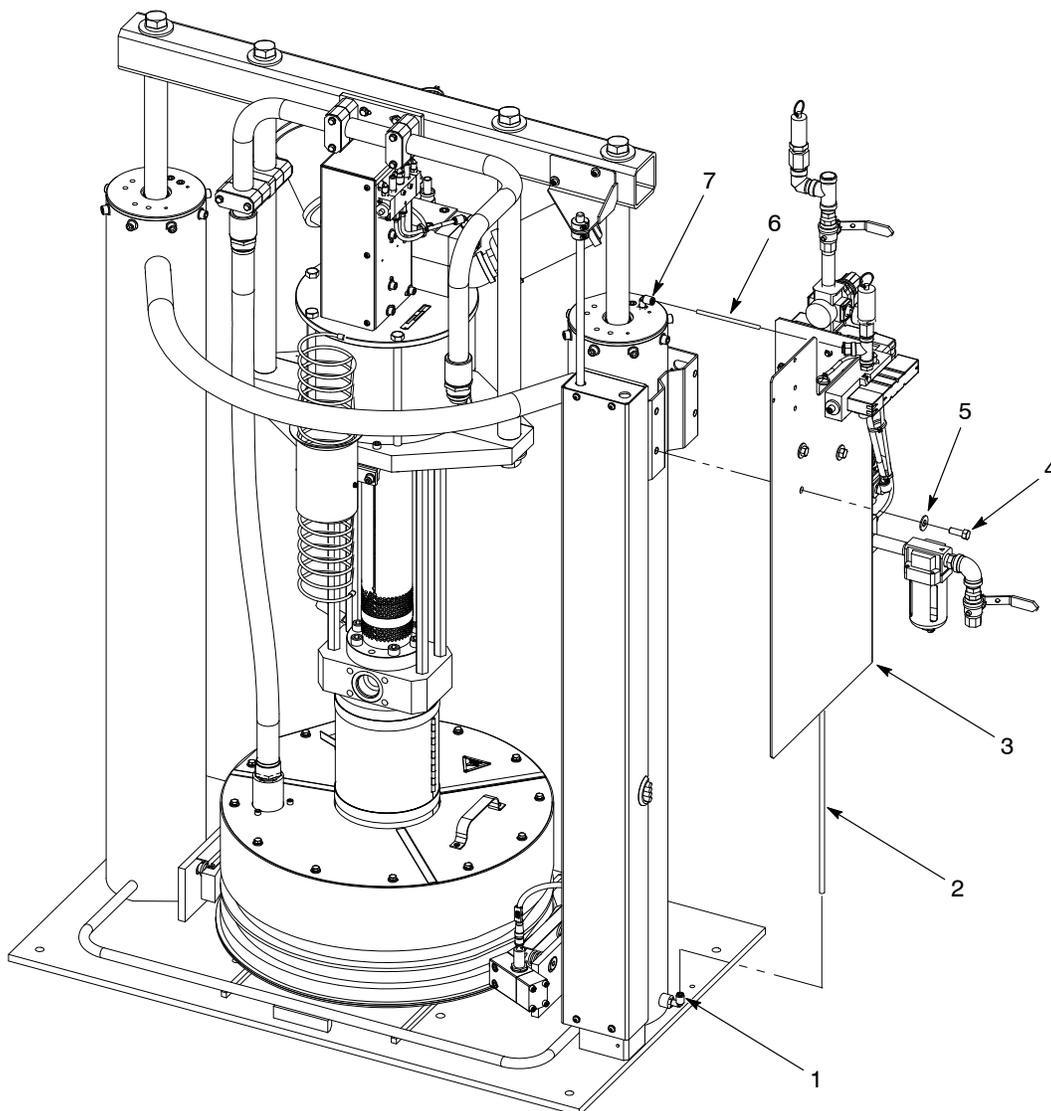

Figure 3 Typical Installation
1. See Figure 3. Mount the Control Module (3) onto the bulk unloader using the supplied screws (4) and washers (5). Tighten the screws securely.
2. Connect the Ram Down tubing (6) to the upper cylinder fitting (7).
3. Connect the Ram UP tubing (2) to the lower cylinder fitting (1).